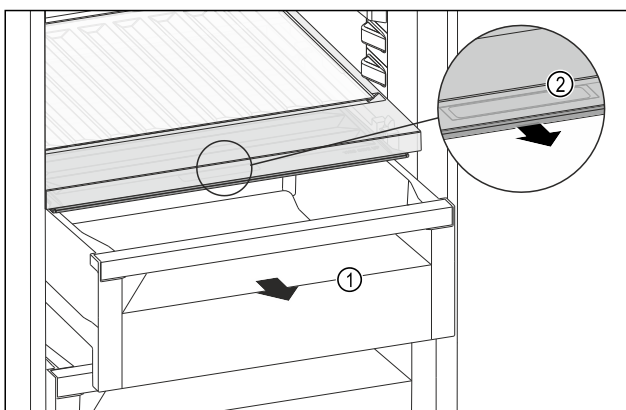

Fig. 183
- ▶ Pull out the drawer Fig. 183 (1).
- ▶ Grasp the recessed grip Fig. 183 (2) on the compartment lid and pull the compartment lid forwards at the same time.